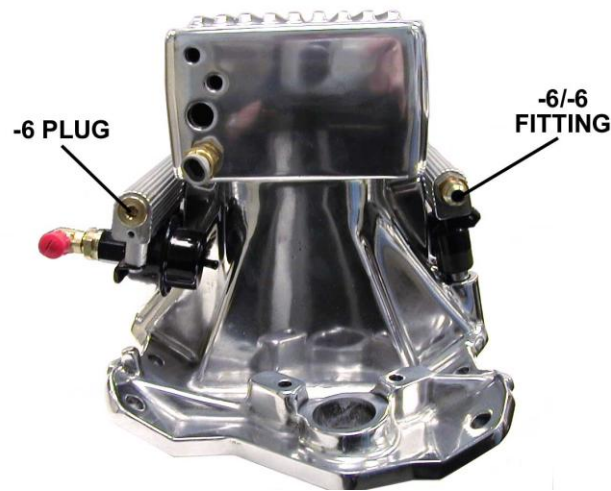

Figure 2
3. The rear driver's side fuel rail should have a -6/-6AN fitting already installed. The rear passenger side fuel rail should have a -6 plug installed. See Figure 2. Make sure these fittings are tight.